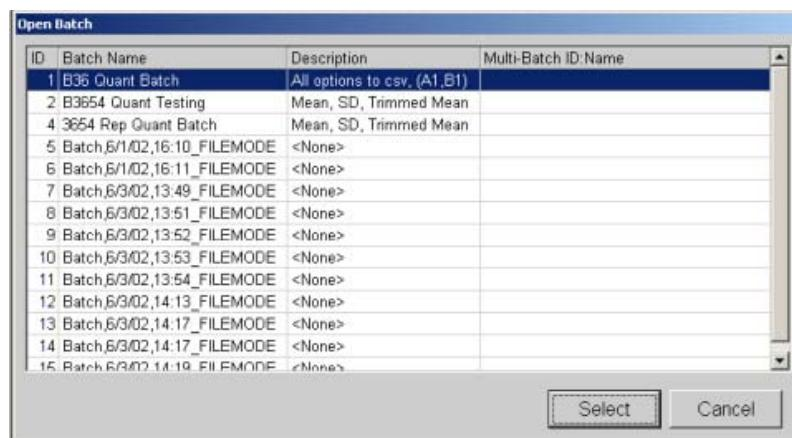

Figure 5-29. Analyze Open Batch
2. In the **Open Batch** dialog box, select the batch you want to analyze, then click **Select**. The most recent Replay Batch is the last or has the highest ID number. See Figure 5-29.